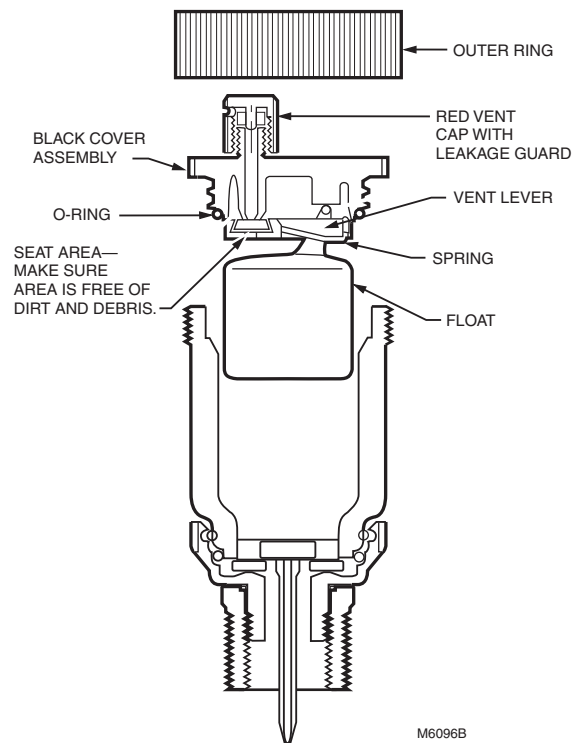

Fig. 5. EA79 construction.
2. Remove the float assembly by unscrewing the outer ring at the top of the body and lifting up the black cover assembly. See Fig. 5.
5. Replace the float assembly, making sure that the O ring is seated properly (see Fig. 5).
The EA79 is not venting air or there is too much air in the system.	1. Check the red vent cap; make sure the vent passage is open (disks are not swelled). 2. Check that the valve is in the open position. 3. Make sure that the float is attached to the vent lever as shown in Fig. 5.